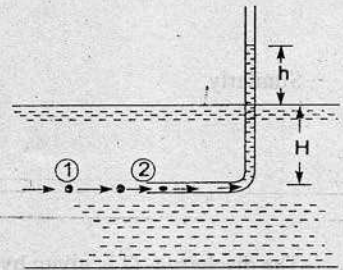

Fig. 6.13 Pitot-tube.
6.7.3 Pitot-tube. It is a device used for measuring the velocity of flow at any point in a pipe or a channel. It is based on the principle that if the velocity of flow at a point becomes zero, the pressure there is increased due to the conversion of the kinetic energy into pressure energy. In its simplest form, the pitot-tube consists of a glass tube, bent at right angles as shown in Fig. 6.13.
The lower end, which is bent through 90° is directed in the upstream direction as shown in Fig. 6.13. The liquid rises up in the tube due to the conversion of kinetic energy into pressure energy. The velocity is determined by measuring the rise of liquid in the tube.